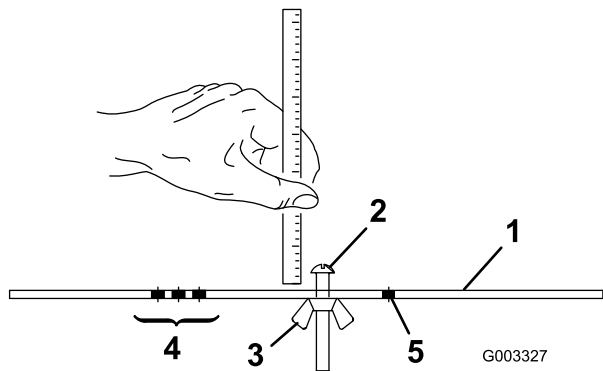

Figure 17
- 2. Loosen nut on gauge bar (Figure 17) and set adjusting screw to desired height-of-cut. Distance between bottom of screw head and face of bar is height-of-cut.